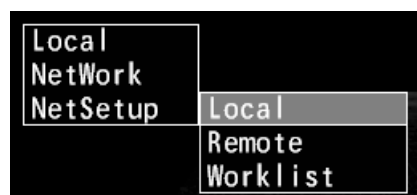

Fig. 5-16 NetSetup
**NetSetup** is for setting connection parameters between the local system and the remote system. The network operation in Section 5.2.8.2 and information transfer between the local and the remote systems are enabled only after completing NetSetup. Select **NetSetup** and press **Enter**. The submenu of **NetSetup** will appear, including three options **Local**, **Remote** and **Worklist**. See Fig. 5-16.
- a) Local. Select **Local** and press **Enter**. A setup dialog box will appear. See Fig. 5-16. Input the local IP address in the IP edit box (e.g. 192.168.0.63). Input a name to identify the local system in the AE edit box (e.g. TEST; note: input capital letters only) and a port number (e.g. 104). Press **Enter** to complete the Local setup.